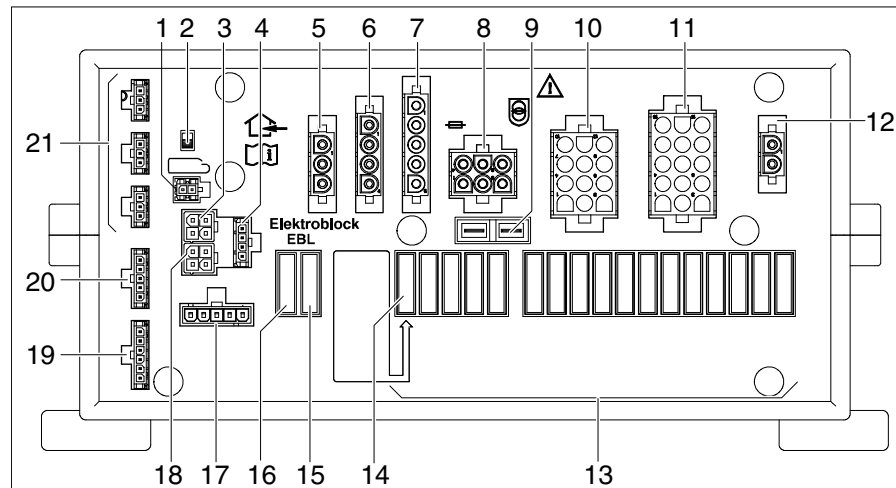

Fig. 257 Transformer/rectifier (EBL 402/403)
Location The transformer/rectifier EBL 402/403 (Fig. 257) is situated on the right in the rear garage.
- ▷ The battery cut-off switch (Fig. 257,2) disconnects all the appliances that are connected to the transformer/rectifier from the 12 V network.
- Turn the battery cut-off switch on and off (Fig. 257,2) three times in a row.